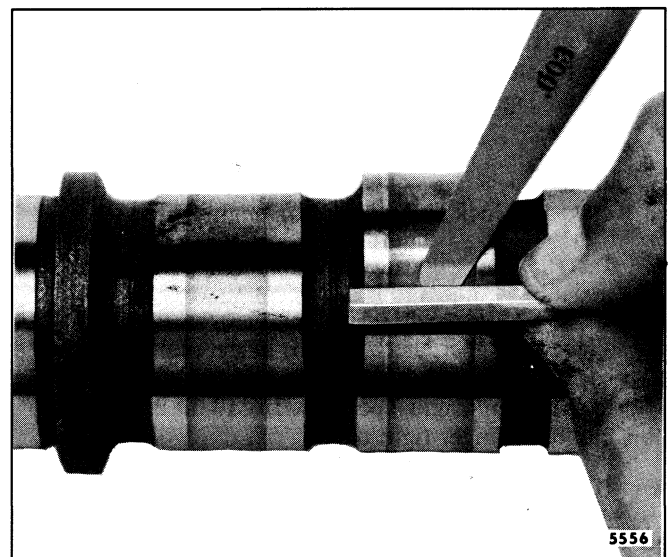

Fig. 3 - Checking Cam Lobe Wear
1. Measure the flat on the injector rise side of the cam lobes with a tapered leaf set of feeler gages (.0015"-.010") and a piece of squared hard material 1/8" x 3/8" x 1" (Fig. 3).